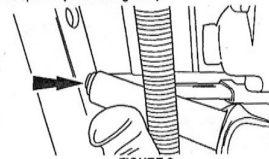

FIGURE 2
- Remove the rear motor plastic spacer. (Refer to Figure 2).